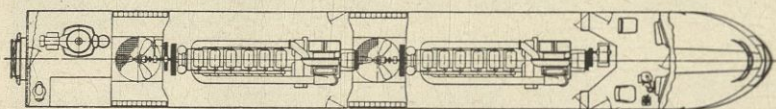

Fig. 10
19. Figure 10 is a floor plan which shows the arrangement of the two "in-line" engines of the single-unit passenger locomotive illustrated in Fig. 5. It is very helpful to anyone who is not familiar with Diesel locomotives to study the plans of different types of these locomotives. Some of the plans show the names of many of the different parts of the apparatus and their approximate locations. With this information in mind, one can get on a Diesel locomotive with a good idea of what to expect.
door of the unit shown in Fig. 10. This view shows the steam generator. The steam generator of the locomotive shown in Fig. 11 is in the center of the space near the rear door of the B unit. Careful comparison and study of these illustrations with the diagram which is Fig. 11 will be helpful to a man who has not had experience on a Diesel locomotive. He will have some idea of what to expect to see when he first has occasion to climb aboard one of these locomotives.